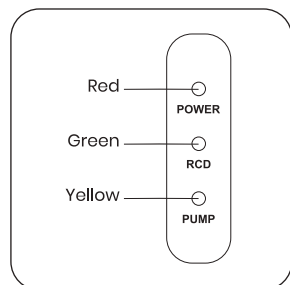

Fig. 9
1. Switch on the electricity power supply, the green **RCD** indicator will light up (**Fig. 9**).